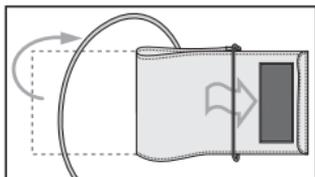

Fig. 6
1. Insert the cuff end for about 5 cm into a metal ring (Fig. 6).